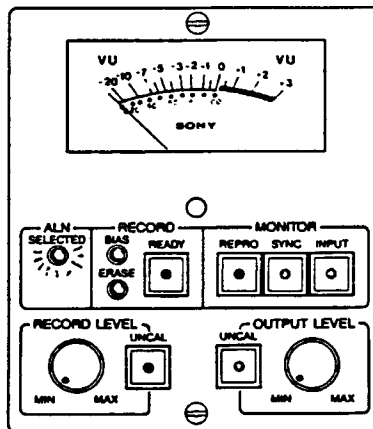

Figure 6-26. Meter Panel (Channel 1 ALN Selected)
STEP 7 Observe the phase relationship of channel 1 to channel 2. After observing the waveform phase relationship, observe the ACVM reading. Check the wrap adjustment by adjusting the wrap adjustment screw (Refer to Figure 6-26) clockwise then counter-clockwise. If there is a phase difference or the amplitude of the signal at the ACVM increases as a result of turning the wrap screw, perform the adjustment procedure in Section 6.6.1.2.
NOTE: Along with these indicators, the meter panel will indicate that channel 1 has been selected for alignment. This is signified by a 1 appearing in the STATUS display and the ALN indicator illuminating on the STATUS display of the Meter Bridge. Refer to Figure 6-26.